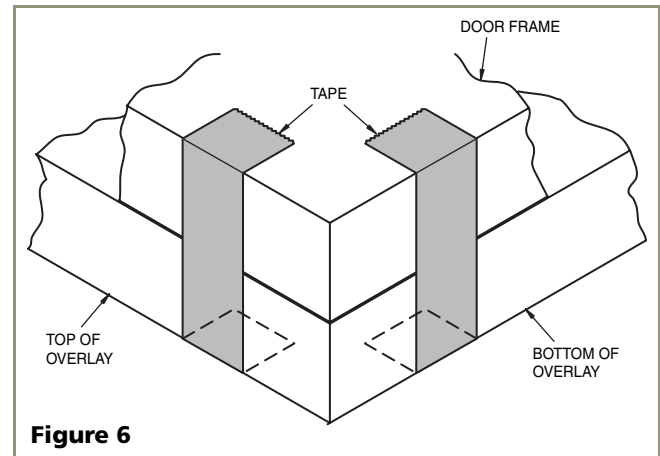

Figure 6
1. Secure existing door with the front of the door to the back of the overlay using tape, on all four corners as shown (Figure 6). Make sure all four edges are aligned.